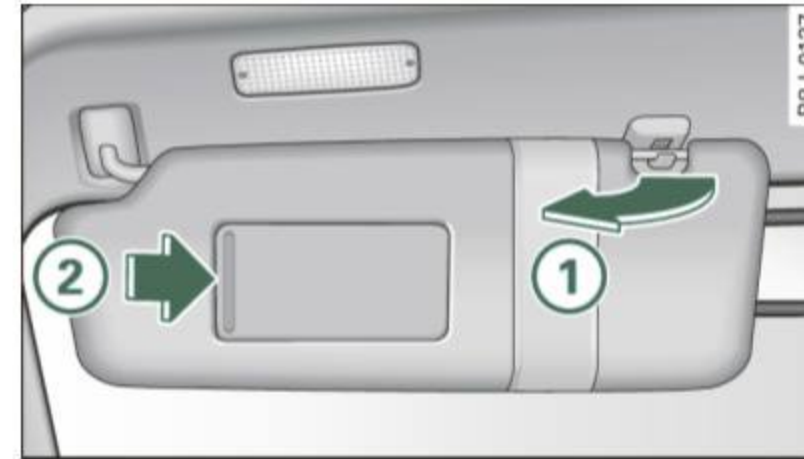

Fig. 58 Sun visor
The sun visors for the driver and passenger can be pulled out of their brackets in the center of the vehicle and turned towards the doors ⇒ fig. 58 ①.